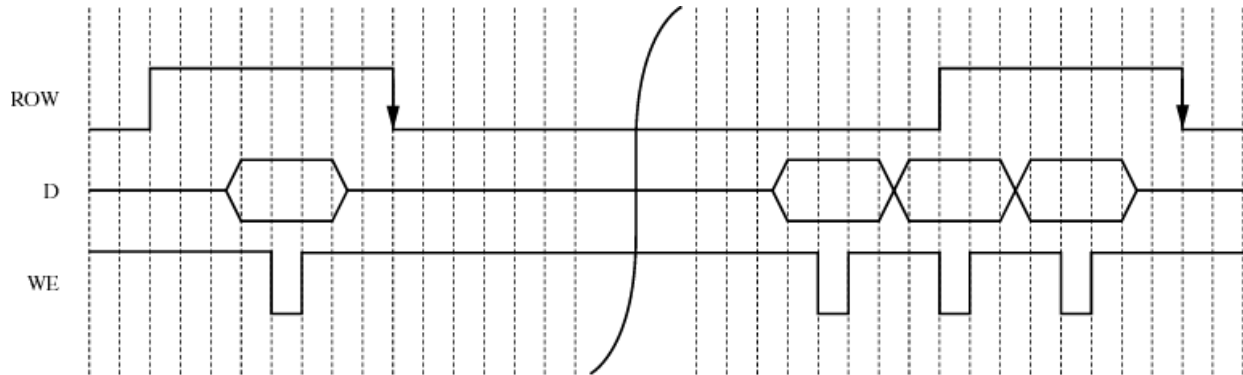

Figure 14. Timing for Writing Data to the On-board Registers through the Data Bus.
Row Synchronization: The only output from the image sensor besides the data bus is the ROW signal. The ROW signal stays HIGH for one SCLK period during a row time. When ROW goes HIGH, the system must stop reading data from the sensor. The period when ROW is HIGH is a good time to write data to the image sensor program registers (Figure 14).
The programmable registers are updated when the write enable (WE) input signal goes low. Data on the data bus must be set up before WE is brought low and be held for a short time after WE is brought high (Figure 14).